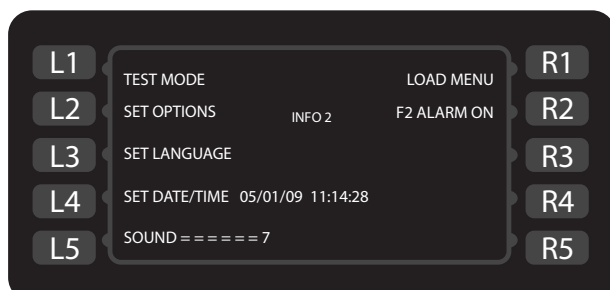
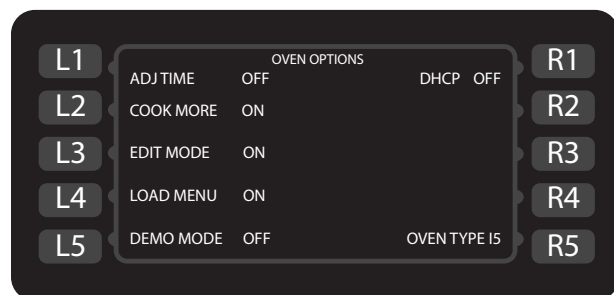
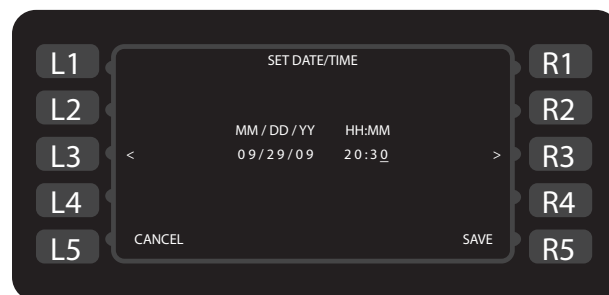

Figure 16: Info Mode Screen 2
Figure 19: Options Screen
Figure 20: Set Date/Time
From screen 2 of the Info Mode (Figure 16):
From screen 2 of the INFO MODE (Figure 16, page 13), press the L2 soft key to access the Options screen (Figure 19). When prompted, enter the password 9 4 2 8 and press the Enter key.
From screen 2 of the INFO MODE (Figure 16, page 13), press the L3 soft key to set a different language. Each
From screen 2 of the INFO MODE (Figure 16, page 13), press the L4 soft key to access the "Set Date/Time" screen (Figure 20).
From screen 2 of the INFO MODE (Figure 16, page 13), press the L5 soft key to adjust the beeper volume.
To turn the F2 alarm on or off, press the R2 soft key from the Info 2 screen (Figure 16, page 13).
From screen 2 of the INFO MODE (Figure 16, page 13), press the R1 soft key to access the Load Menu screen.
NOTE: This feature can be turned on or off via the “Options” screen (Figure 19, page 14).
6. Verify the oven type is set to “i5” (Figure 19).
From screen 2 of the INFO MODE (Figure 16, page 13), press the L1 soft key to access TEST MODE (Figure 22). When prompted, enter the password 9 4 2 8 and press the Enter key. From TEST MODE, the oven's components can be tested independently, or a comprehensive/selective self-test can be run. Unless otherwise specified, idle airflow is set to 10% and the stirrer motor is turned on.